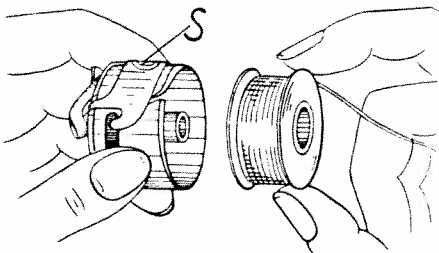

Fig. 5
5. Insert the full bobbin into the bobbin case so that the thread unwinds clockwise, as shown in Fig. 5.